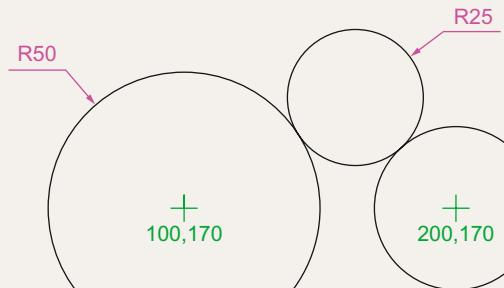

Fig. 2.31 Exercise 4
4. Using the **Circle** tool, construct the two circles of radius 50 and 30. Then using the **Ttr** prompt add the circle of radius 25 (Fig. 2.31).